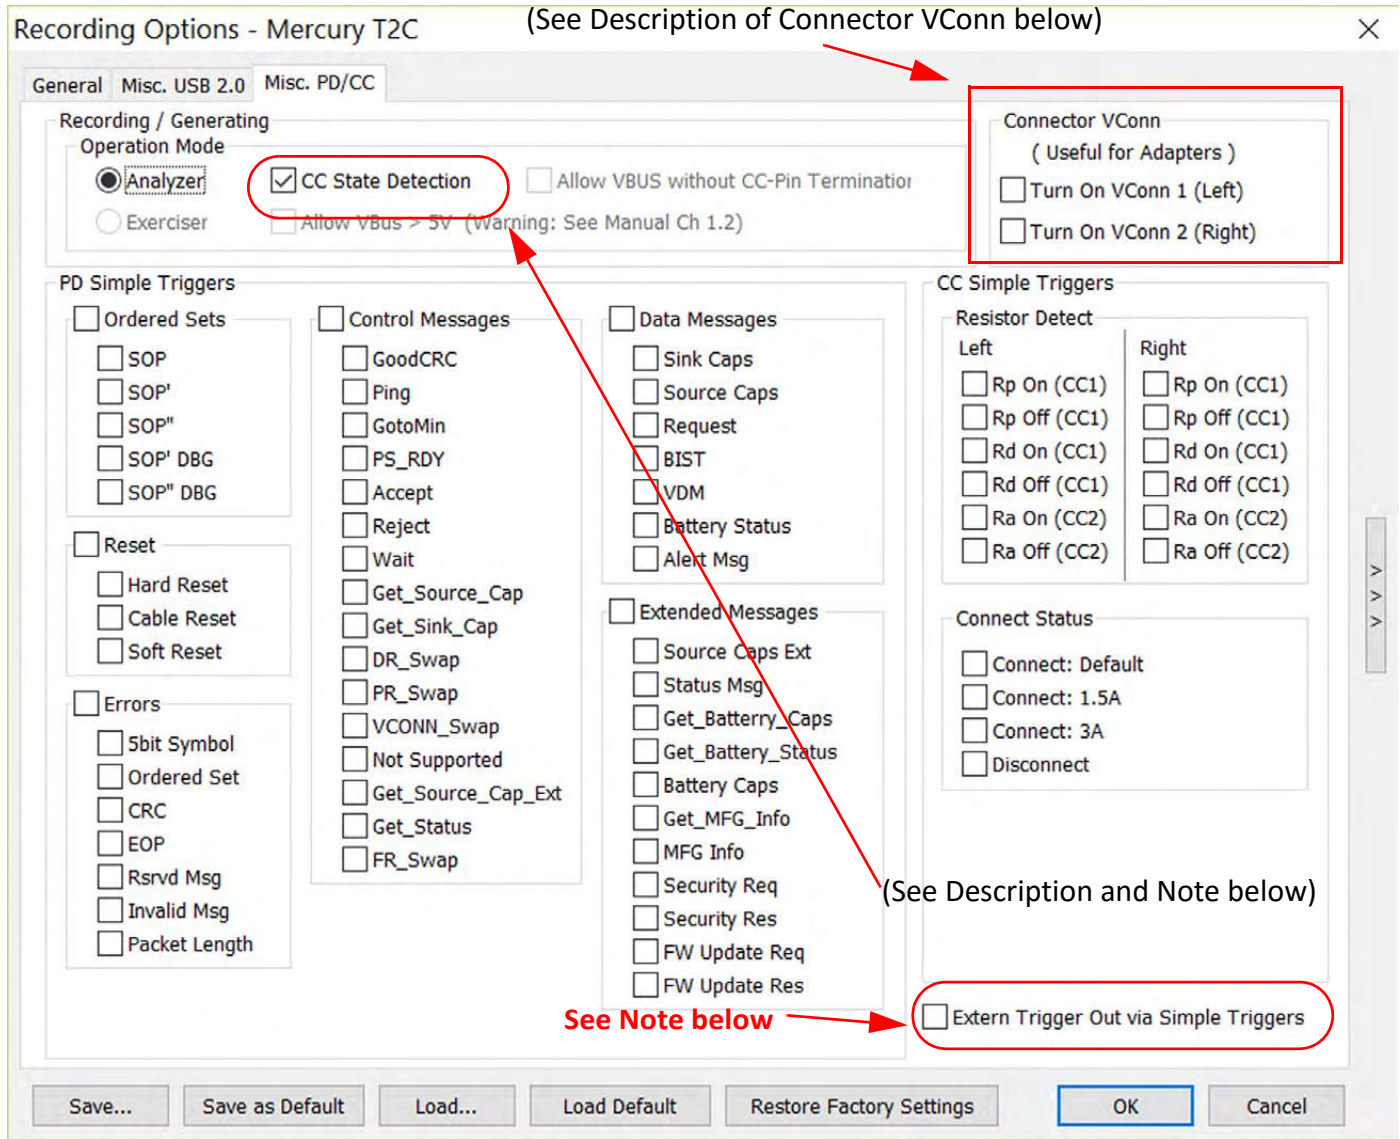

Figure 5.8: Mercury T2C: Recording Options for PD and CC Events
The Simple Trigger Options for Power Delivery (PD)/Configuration Channel (CC) events are shown in Figure 5.8 on page 203.